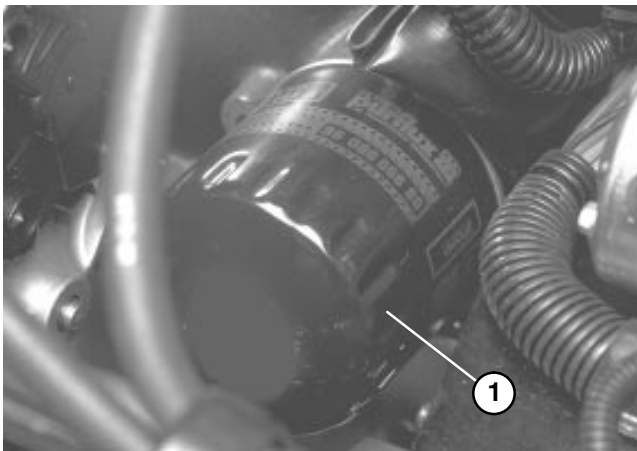

Figure 42
2. Remove oil filter (Fig. 42). Apply a light coat of clean oil to the new filter seal before screwing it on. DO NOT OVER-TIGHTEN.